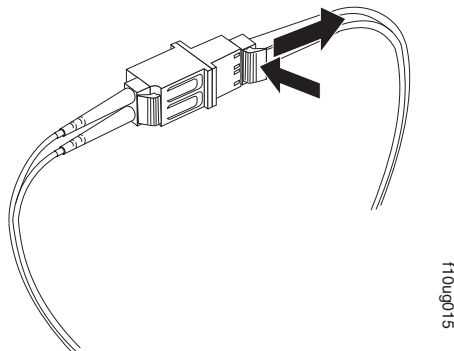

Figure 41. Removing the LC-LC fibre-channel cable from an LC-SC fibre-channel cable adapter
2. Carefully pull on the connector to remove it. Make sure you grasp the connector and not the cable when removing the LC-LC cable from the LC-SC cable adapter as shown in Figure 41.